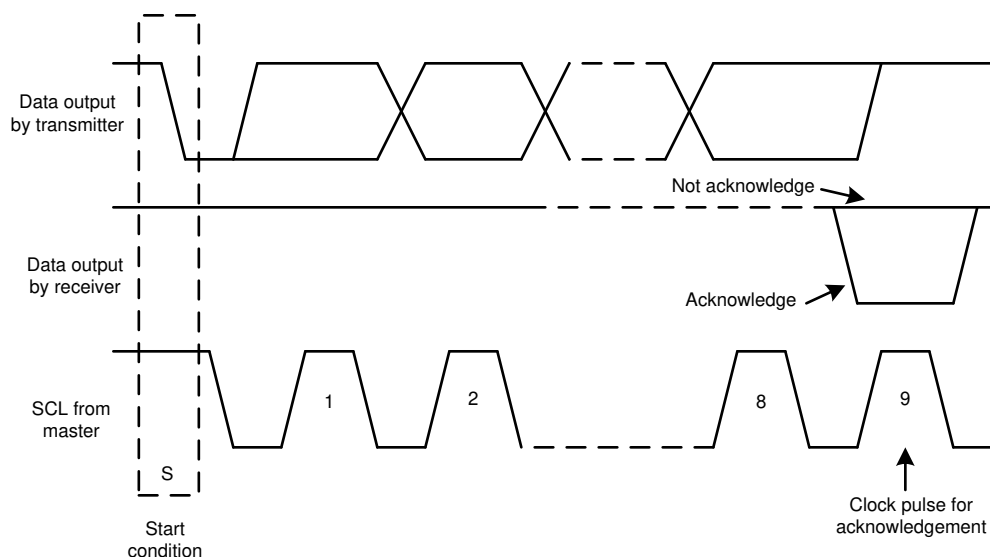
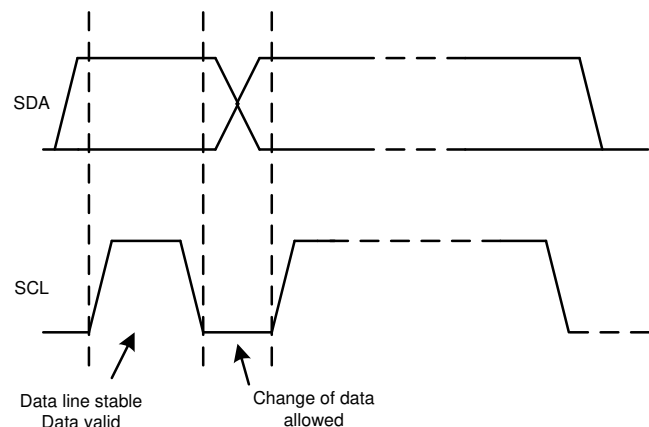

Figure 50. Acknowledge and Not Acknowledge on the I²C Bus
Figure 52. Bit Transfer on the I²C Bus
Other than specific timing signals, the I²C interface works with serial bytes. At the end of each byte, a ninth clock cycle generates and detects an acknowledge signal. Acknowledge is when the SDA line is pulled low during the high period of the ninth clock cycle. A not-acknowledge is when the SDA line is left high during the high period of the ninth clock cycle as shown in Figure 50.
2. The master then generates the SCL pulses, and transmits the 7-bit address and the read/write direction bit (R/W) on the SDA line. During all transmissions, the master makes sure that data are valid. A valid data condition requires the SDA line to be stable during the entire high period of the clock pulse, as shown in Figure 52. All devices recognize the address sent by the master and compare the address to the respective internal fixed address. Only the slave device with a matching address generates an acknowledge by pulling the SDA line low during the entire high period of the 9th SCL cycle, as shown in Figure 50. When the master detects this acknowledge, the communication link with a slave has been established.